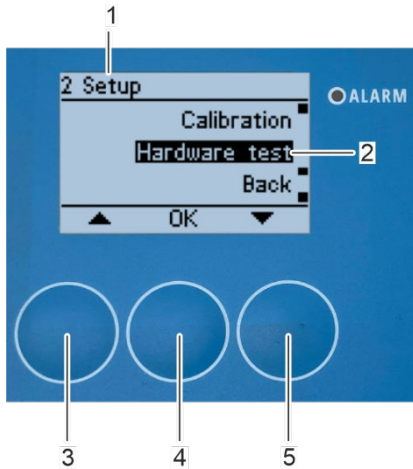

Fig. 139: Open submenu "hardware test"
1. Select the "Hardware test" submenu (Fig. 139/2) with the arrow keys [up] (Fig. 55/3) and [down] (Fig. 139/5) in "2 Setup" submenu (Fig. 139/1).
2. Confirm the selection with [OK] (Fig. 139/4).